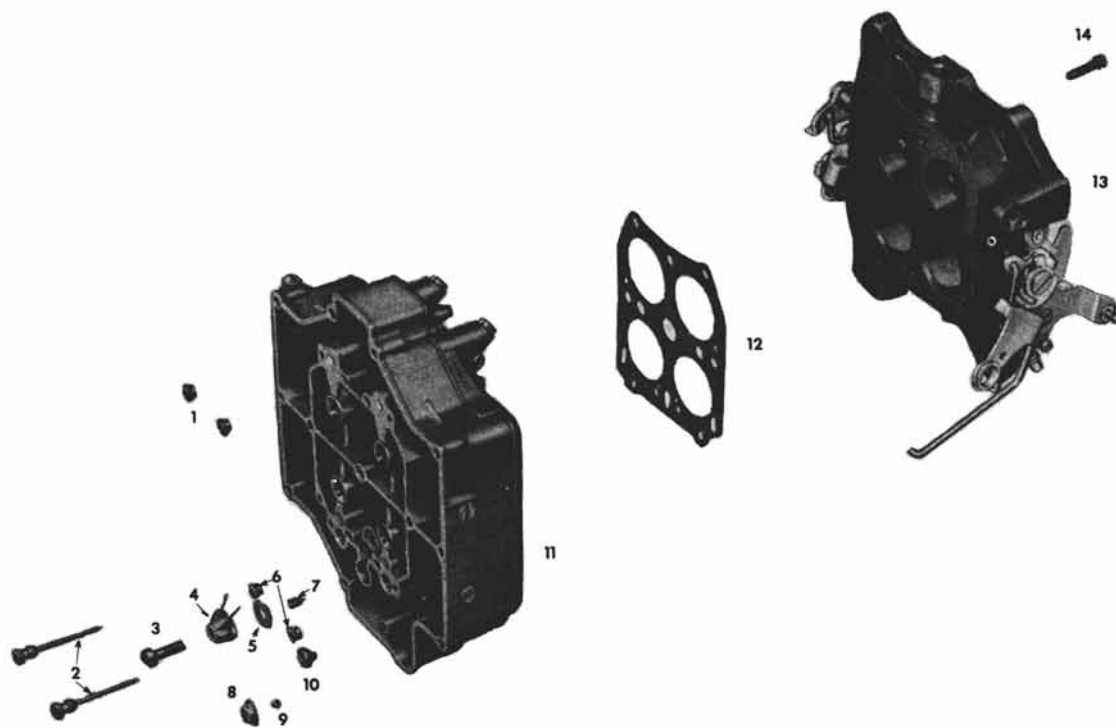

Fig. 26-C Carburetor Body - Exploded View
NOTE: All references in this procedure are to Fig. 26-C.
11. Remove six throttle flange attaching screws (Fig. 26-C) and separate the throttle flange and carburetor body.
4. Install steel pump inlet ball check and retainer (Fig. 26-C).